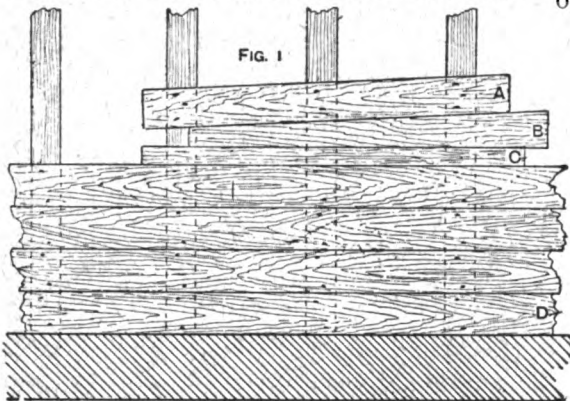

FIG. 2
piece shown in Fig. 1 shall be fitted as in Fig. 2, draw (Fig. 3) to scale as shown. Along a horizontal line mark off the span of the greenhouse to 1 in. to the foot say, as indicated by A; then draw the vertical line shown at B, and mark off the amount of fall (that is the difference between the height of the front and back) to the same scale. Then the line C represents the correct fall. The end view of the rail can now be marked out full size as shown at D E F, and the triangular piece scored shows the amount of material to be taken off. A gauge may be set to the distance G H, and the wood marked by it; or a bevel can be set as indicated by the dotted lines, and the wood planed to suit it in the ordinary manner.
**Pattern for Square Aquarium Top.**—To make a perforated square zinc top for an aquarium, that could be taken off and put on as required, commence by drawing a plan and elevation (Figs. 1 and 2) to the required size. Divide the semicircle  $d d$  (Fig. 2) into six equal parts, and draw lines at right angles to C C to pass through the division points  $b b$ ; also join the division point  $c$  to C and  $d$  to C. From any point along X Y erect the perpendicular O o, and from O mark off lengths corresponding to  $b B$ ,  $c C$ ,  $d D$  (Fig. 2); join these points to o, and the lengths found,  $B o$ ,  $C o$ ,  $D o$ , will be the true slants of the lines  $b B$ ,  $c C$ ,  $d D$  (Fig. 2). To work the pattern, draw a straight line equal in length to C C (Fig. 2); mark upon this line a centre point A (Fig. 3),
and mark on either side of A divisions corresponding to A B (Fig. 2). From A, B (Fig. 3) draw lines at right angles to C C, and mark on these lines from the point A, a length equal to  $D' d'$  (Fig. 1), and from B, lengths equal to  $o B$  (Fig. 1). Next use C as centre, and with radius C o (Fig. 1) draw an arc; with  $b c$  (Fig. 2) as radius and  $b$  (Fig. 3) as centre, cut the arc first drawn to obtain the point  $c$ ; again use C as centre on both sides of the pattern, and with radius  $o D$  (Fig. 1) draw an arc; with the division length  $c d$  (Fig. 2) cut the arc so as to obtain the point  $d$ . Now take the length C D (Fig. 2) as radius, and again using C (Fig. 3) as centre, draw an arc; with  $D' d'$  (Fig. 1) as radius and  $d$  on the pattern as centre, cut the arc first drawn. Join the intersecting arcs  $d D$  by a straight line, and also join D C. Draw a curve through the intersecting arcs  $d, c, b, a, b, c, d$ , to complete the half pattern with seams placed in the centre of the sides at D d, D d. When making the top, bend the corners C C upon any sharp-edged tools until the sides form a right angle with the end; the semicircle forming the half top can be brought to shape by pressing the perforation to a circular shape with the thumb. If the two halves are to be grooved together, an equal allowance for the groove will be necessary on each side of the pattern; if soldering is adopted, then one lap, as shown, will do.
of quartering about 2 in. by 3 in. next to the floor board, as at C. Cut a wedge, and place it as at B; then nail down a piece of batten to the joists, as at A (both this and the wedge can be cut out of odd pieces of floor board). The wedge B should be driven with a large hammer or axe until the joints of the board are quite close. Use prepared grooved and tongued boards, a section of which is shown at Fig. 2, to prevent dust and draught passing through the joints of the boards after they have shrunk.